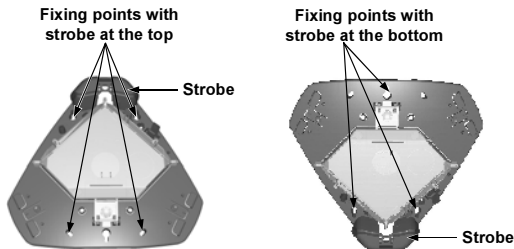

Figure 4-1: Attaching the mounting bracket
1. Place the back cover in position against the wall and mark the upper and lower mounting holes (see Figure 4-1).